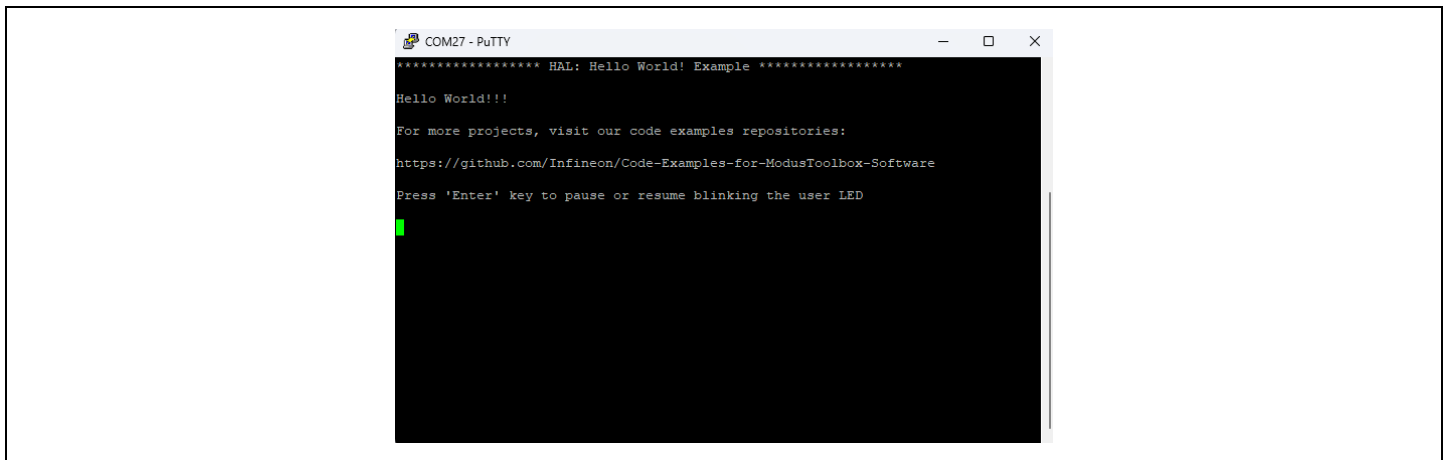

Figure 20 Terminal output on program startup
10. A terminal emulator can be used after programming to confirm the “HAL: Hello World! Example” is displayed on the UART terminal as seen in Figure 20. For more details, please refer to the code example’s README file.